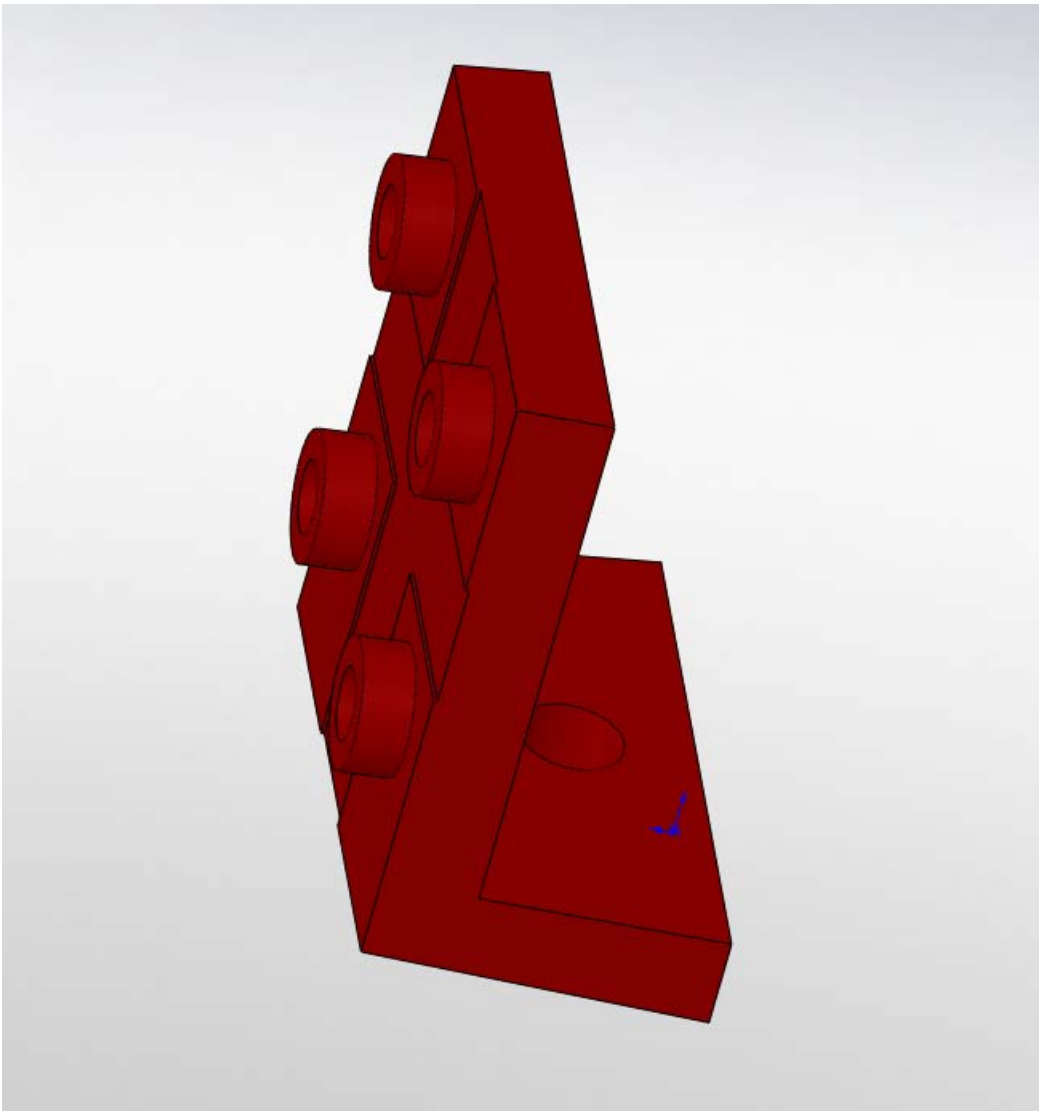

Figure 9
- Attach L-brackets (D1000111) Figure 9 to both lifting arms so that the baffle does not slide on the teflon pads.